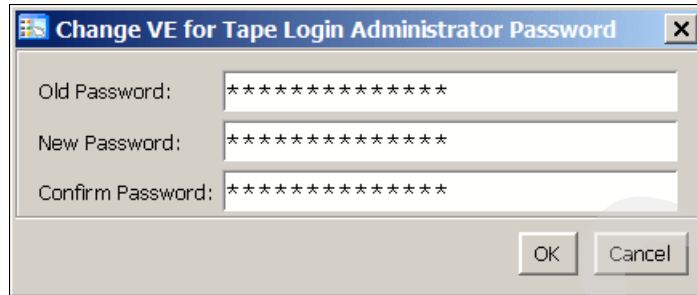

Figure 8-4 TS7500 - Change default password
2. In the window that opens, type the original password (VEUSERPASSWORD), type the new password, and then type the new password again to confirm it, as is shown in Figure 8-4.